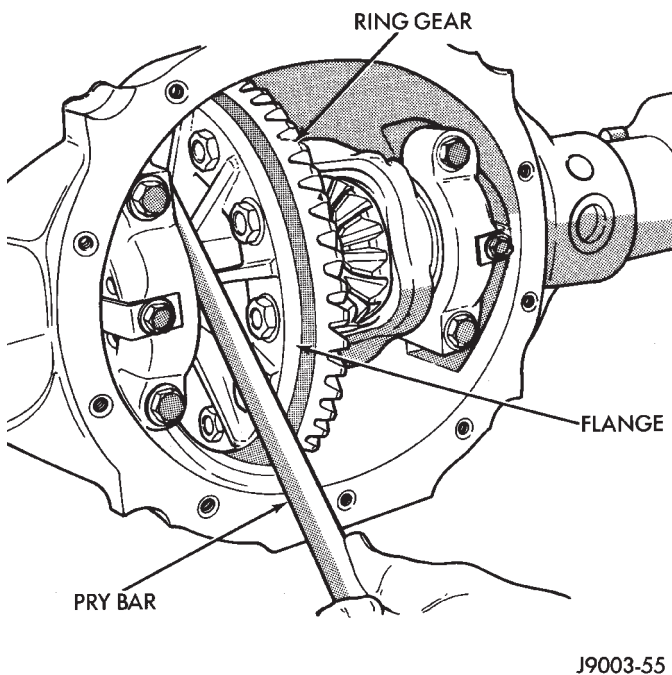

Fig. 9 Differential Case Side Play Test
(2) Check differential side play. Position a screwdriver or pinch bar between left side of axle housing and case flange (Fig. 9). Use a prying motion to determine if any side play exists. There should be no side play.